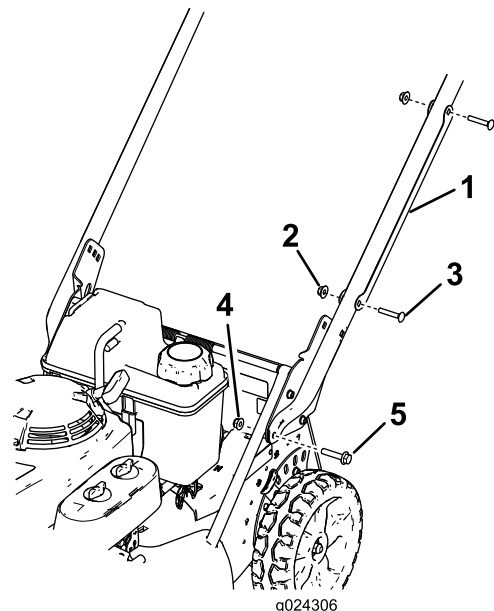

Figure 3
1. Remove the cable guard from the handle (Figure 3) by removing the 2 carriage bolts and 2 locknuts that hold the cable guard to the handle.
2. Install the handle ends onto the mower housing with 2 hex-head-flange bolts (5/16 x 1-1/2 inches) and 2 flange nuts (5/16 inch) as shown in Figure 3.
- Carriage bolt—5/16 x 1-1/2 inches (2)
- Handle bracket (2)
- Flange nut—5/16 inch (2)
- Position the cable guard onto the handle **with the cable(s) inside the guard**, and secure the guard to the handle with the 2 carriage bolts and the 2 locknuts that you previously removed (Figure 3).